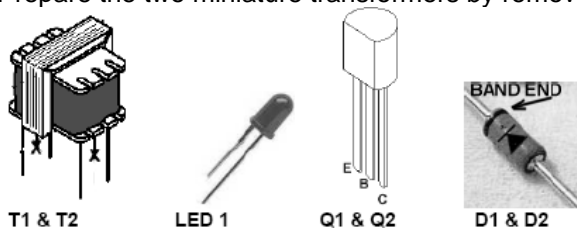

Figure 1. DO NOT REMOVE the 2 outside wires. The two *outside* wires on each side of the transformer are the primary and secondary windings.
- (1) Install the fixed resistor at location R1 (750 ohm Violet, Green, Brown)
- (2) Install the fixed resistor at location R3 (750 ohm Violet, Green, Brown)
- (3) Install (2) Diodes at locations D1 and D2, *making sure the banded ends are toward T1 location.*
- (4) Install (2) transistors 2N2222 at locations Q1 and Q2. Be sure to orient each transistor as shown by outline on the PC board. Q1 has flat side facing the right side of the PCB, and Q2 has the flat side facing the left side of the PC Board, See the photo.
- (5) Install LED1. DO NOT CUT OR SHORTEN THE LED WIRES ! The longer of the two LED wires is inserted into the hole nearest T1. Install so the tip (top) of the LED is 5/8 of an inch above the PC board surface. Prepare the two miniature transformers by removing *only the center wire (X)* from each side of the transformer, Fig 1.